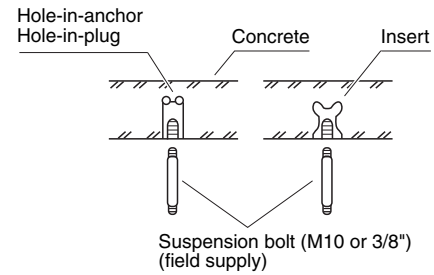

Fig. 3-86
- Insert suspension bolts as shown in Fig. 3-86 or
- (2) Screw in the suspension bolts allowing them to protrude from the ceiling as shown in Fig. 3-86. (Cut the ceiling material, if necessary.)